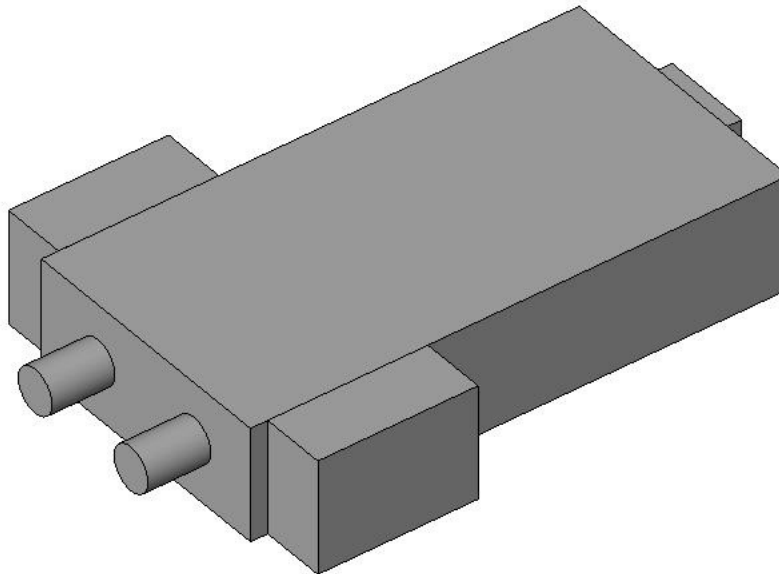

Figure 42. The finished VAV Box geometry.
11. On your own, use the same process to create the control box on the back side of the VAV Box so that your finished model looks like Figure 42 – don't forget to set your workplane to the back of the VAV Box.